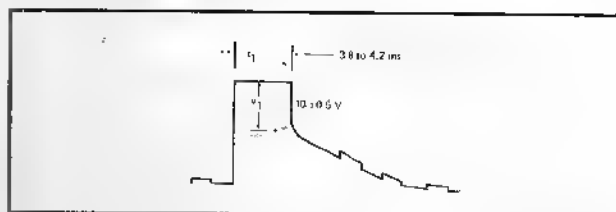

Figure 4-10. TP3 RING COUNTER WAVEFORM.
4-54. The signal at TP3 (Figures 4-10 and 4-11) is convenient for evaluation of the ring counter. The signals at the collectors of Q20 through Q24 are identical, but are displaced in time.
- In the waveform shown in Figure 4-10, t_1 should be 3.8 to 4.2 milliseconds. If t_1 is not correct, check clock signal duration. It should be 4 ± 0.2 milliseconds duration.